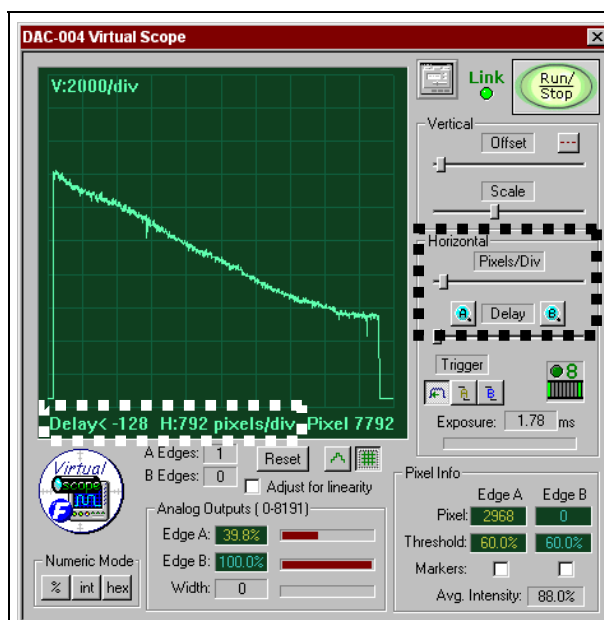

Figure 6 - Not parallel to the lamp assembly
The horizontal controls allow different portions of the signal to be viewed in more detail, but for this adjustment, the entire signal needs to be visible. Insure that the horizontal pixels/div setting is set to 760 or greater and the Delay value is -128 (see *Figure 6*). These settings are displayed at the bottom of the 'scope' window. Adjust the 'Pixels' or 'Delay' sliders as required. Clicking the Reset button will set them to these values. See configuration software Figure Sheet 1-873 for more information.
Uniform illumination of the photodiodes produces a virtually horizontal bright-level characteristic on the oscilloscope screen (*Figure 7*). An oblique characteristic (*Figure 6*) means that the photodiode line is not aligned parallel to the lamp assembly. Loosen clamping screw (18) as shown in Figure 1 and rotate the camera in its fixture until the video signal improves, then retighten screw.